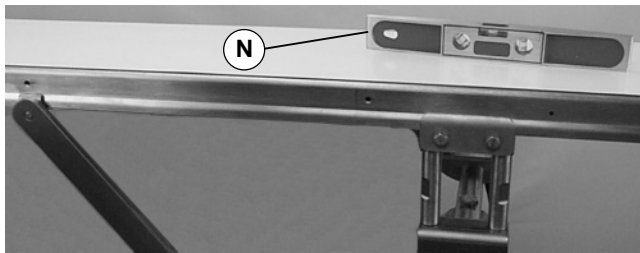

Figure 4
**NOTE: Conveyor MUST be mounted straight, flat and level within confines of conveyor. Use a level (N of Figure 4) for set-up.**